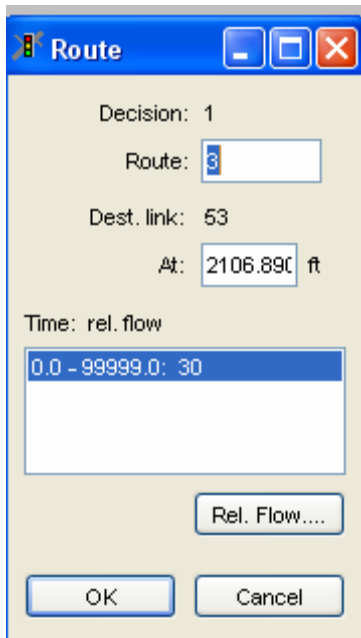

Figure 12. The "Route" window.
- Click the "data" button on the right side of the "Routes" window and the "Route" window appears (see Figure 12).